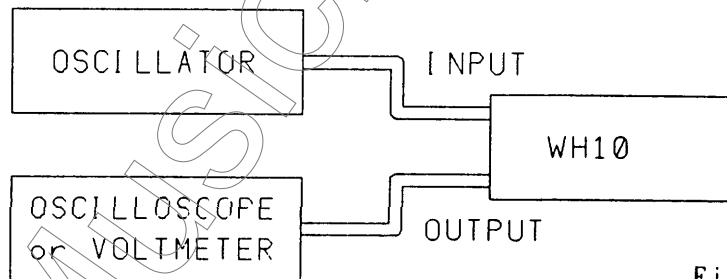

Fig.1
- Step 1 Hook-up (Refer to Fig.1)